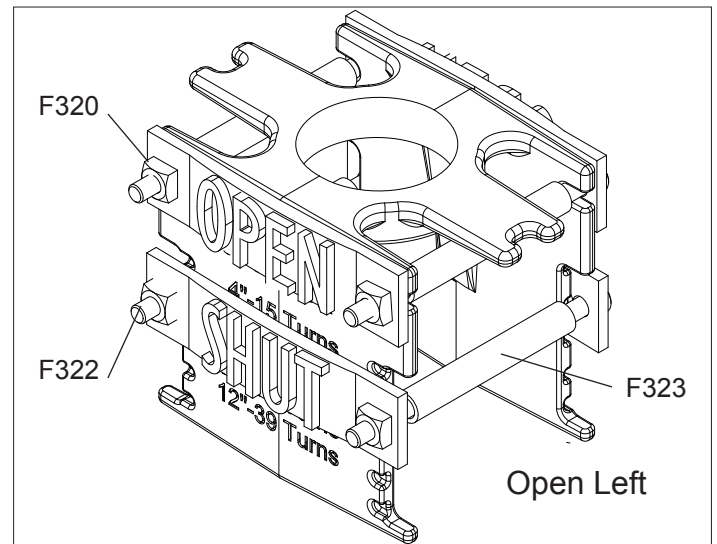
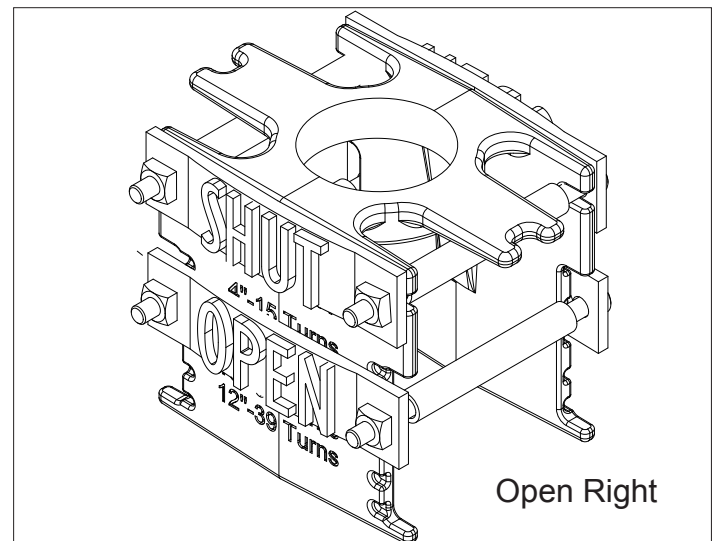

Fig. 2B
Fig. 2C
For an "open left" valve the "OPEN" sign should be mounted above the "SHUT" sign. (Fig. 2B) For an "open right" valve the "SHUT" sign should be mounted above the "OPEN" sign. (Fig. 2C).
3. If the Post Indicator is to be mounted on an open left valve, the "OPEN" Plate (F321) remains in the top position of the Target (F318). (See Fig. 2B).
4. To configure for "open right" remove the Plate Attachment Screws (F322), and Plate Nuts (F320) with a flat bladed screwdriver and 7/16", (11mm) wrench. Switch the locations of the "OPEN" and "SHUT" Plates. The "SHUT" Plate F319, should be mounted on top. (See Fig. 2C).